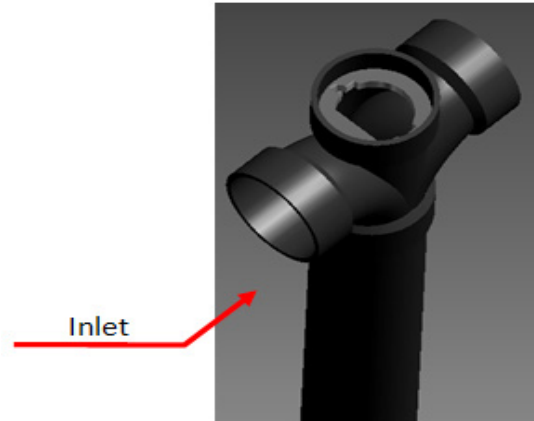

FIGURE 1
**NOTE:** The UV housing has to be installed so that the flat edge of the keyway is on the inlet side. If this is not installed correctly the treatment plant effluent will not flow through the device correctly and the UV disinfection will not be effective. See Figure 1.